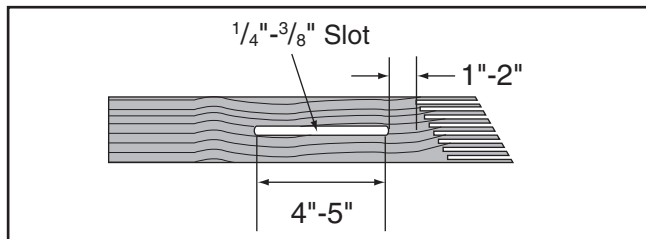

Figure 76. Slot routed in featherboard.
4. Rout a $\frac{1}{4}$ "- $\frac{3}{8}$ " wide slot 4"-5" long in workpiece and 1"-2" from short end of featherboard (see **Figure 76**).